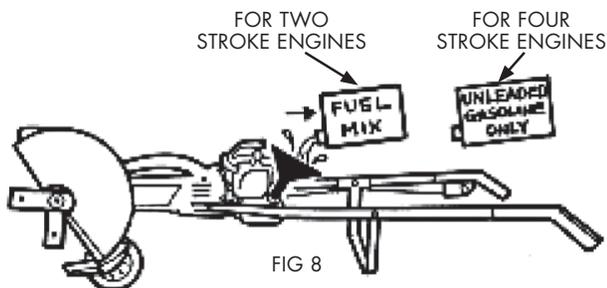

FIG 8
- Always mix oil and gas in the proper proportions: 125ml of two-cycle engine oil to 4 litres of unleaded gasoline. Fig. 8.